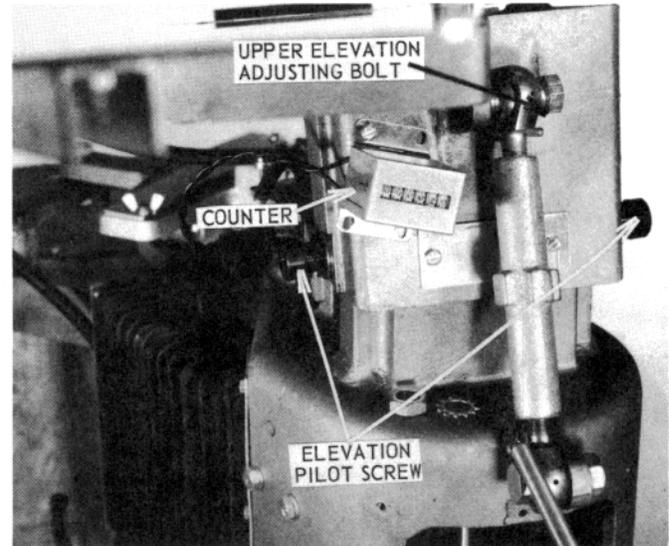

Figure 31 – Counter, Elevation Adjusting Assembly Bolts, and Elevation Pivot Screws
- 1.2.6 Remove the two counter screws, but leave the connecting wires attached (see Figure 31).
- 1.2.7 Remove the upper elevation adjusting assembly bolt (see Figure 31).
- 1.2.8 Remove both elevation pivot screws (see Figure 31).